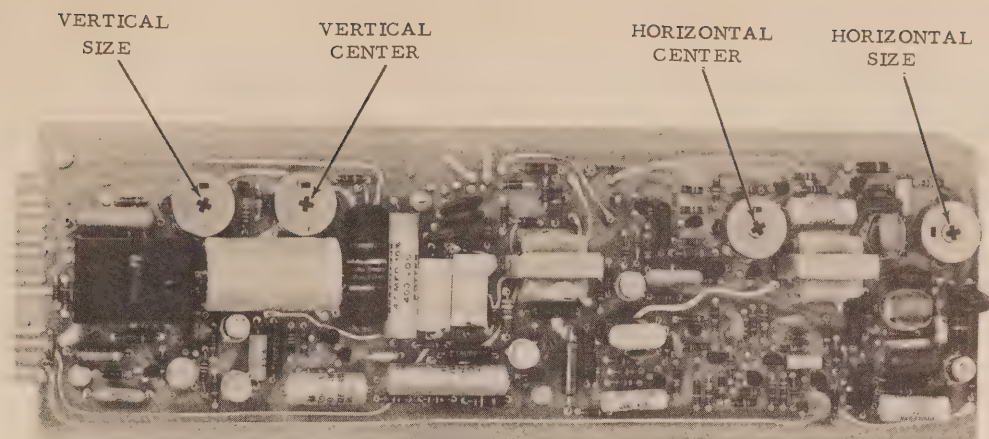

Figure 8.
(2) Rotate the HORIZONTAL SIZE and VERTICAL SIZE controls to their mid-range positions. Refer to Figure 8.